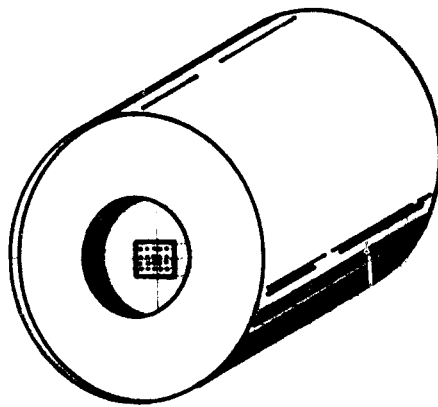

Figure 5-25. AIM-4 Warhead
- a. Warhead (reference figure 5-25).
- (1) Blast type, 2.5 pounds HBX.
- (2) Forward part of center fuselage section at the junction.